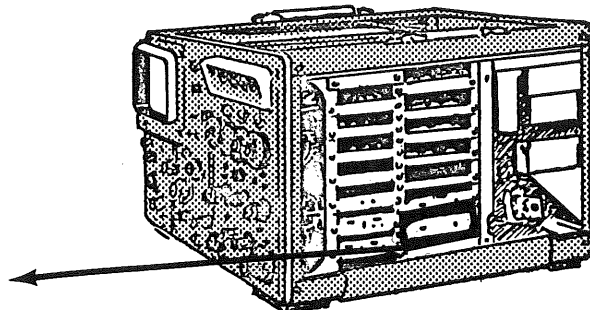
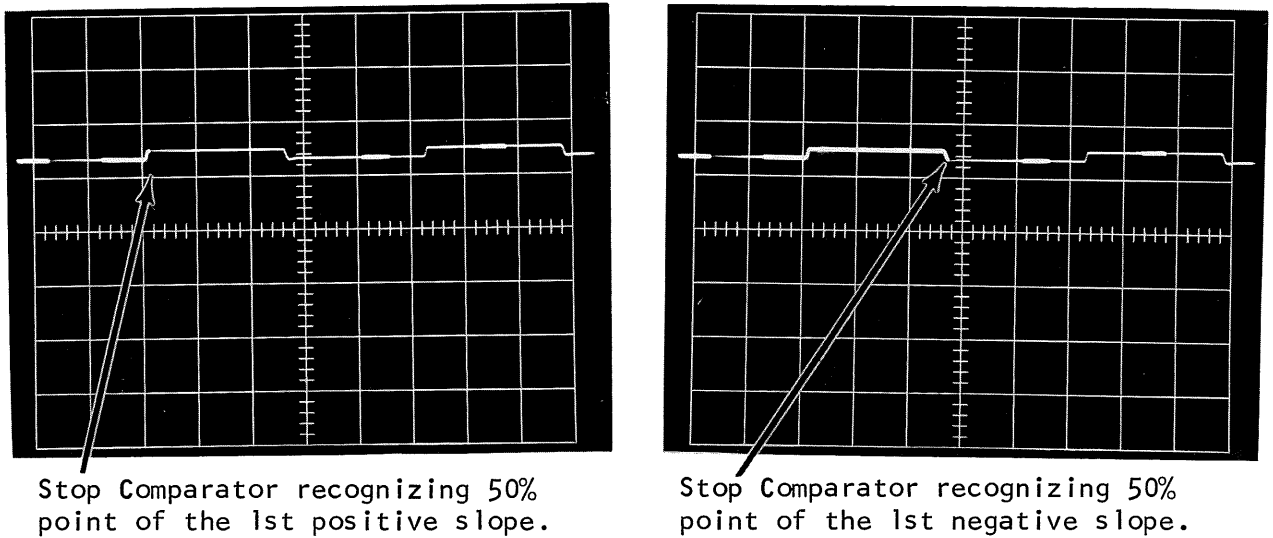

Figure 2-25
Figure 2-26
3. Switch the STOP SLOPE control from + to - while reducing the signal amplitude. Adjust the DC BAL, R75 - See Figure 2-25, so the comparator will switch on the positive and negative slopes of the waveform. See Figure 2-26.